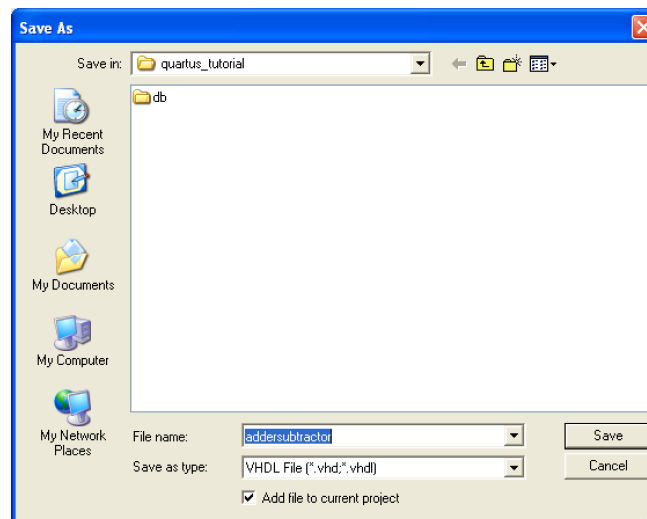
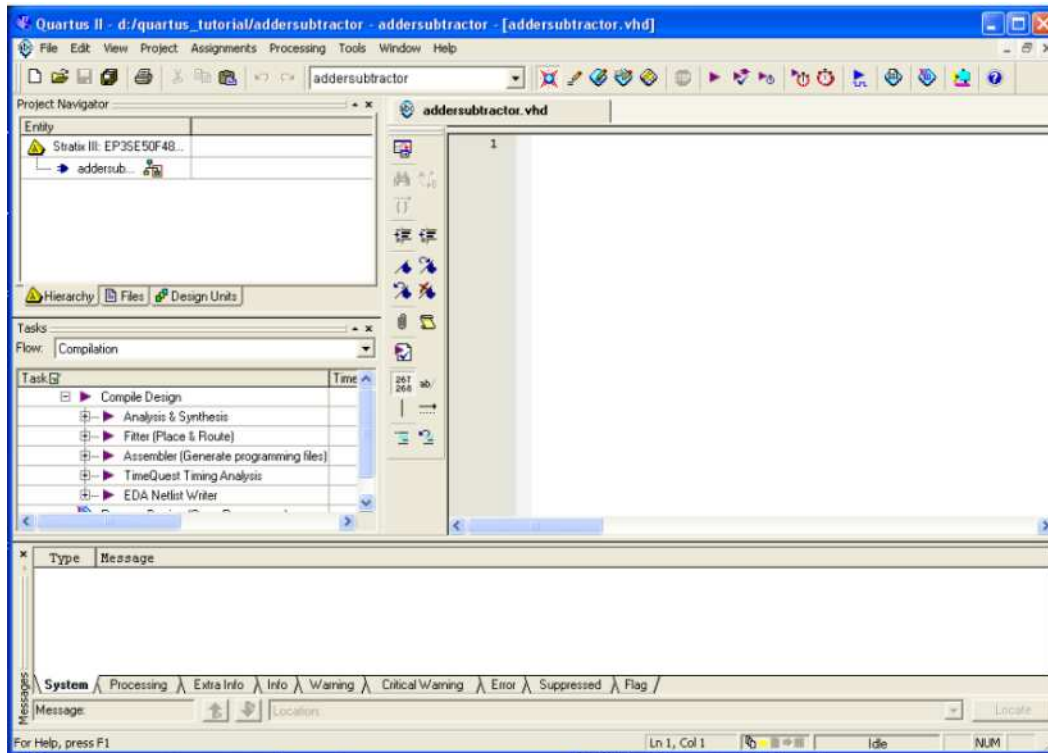

Figure 14: Name the file.
Figure 15: Text Editor window.
2. The first step is to specify a name for the file that will be created. Select **File > Save As** to open the pop-up box shown in Figure 14. In the field labeled **Save as type** choose **VHDL File**. In the field labeled **File name** type *addersubtractor*. Put a checkmark in the box **Add file to current project**. Click **Save**, which puts the file into the directory *quartus_tutorial* and leads to the Text Editor window shown in Figure 15.